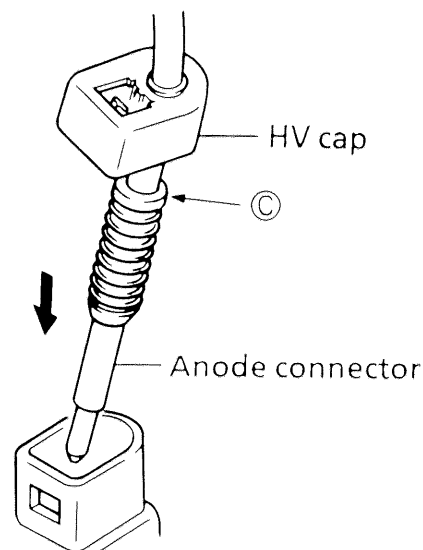

Fig. 7
- (2) Remove the HV cap and remove the anode connector (Fig. 7).
- (1) Insert the anode connector deep into the FBT (to section ③ in Fig.7) and then push the HV cap into the FBT until it clicks.